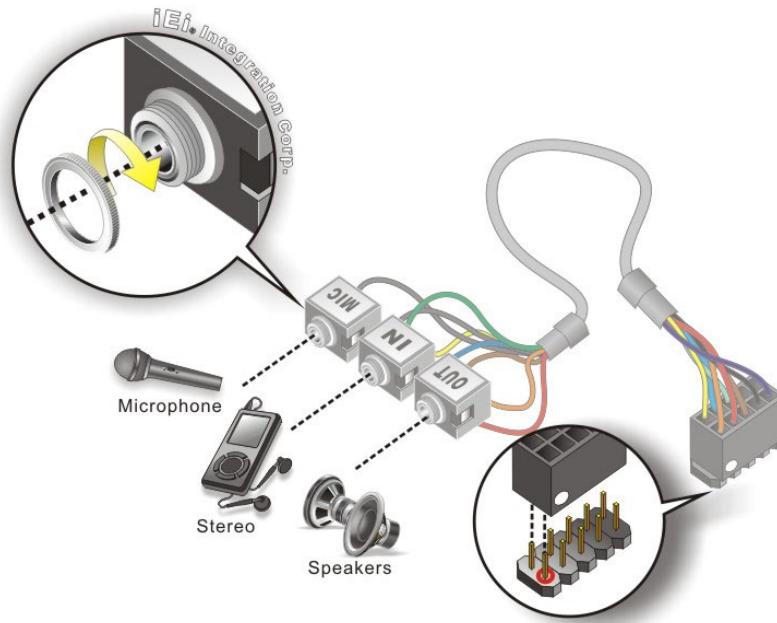

Figure 4-20: Audio Kit Cable Connection
Step 2: Align pin 1. Align pin 1 on the on-board connector with pin 1 on the audio kit connector. Pin 1 on the audio kit connector is indicated with a white dot. See **Figure 4-20**.